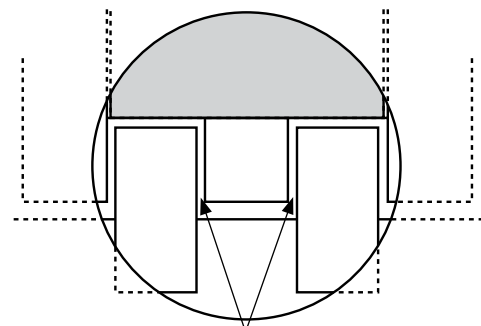

FIGURE 10
- B. Working through the gap access port in the side of the body casting, and using a non-magnetic feeler gauge approximately .056" (1.4 mm) thick (furnished with each unit), check the air gaps between the E-Frame legs and the armature pole pieces (See Figure 10). These gaps should be uniform in width and parallel and as nearly alike as possible. If they are not, they should be adjusted by shifting the electrical assembly plate.